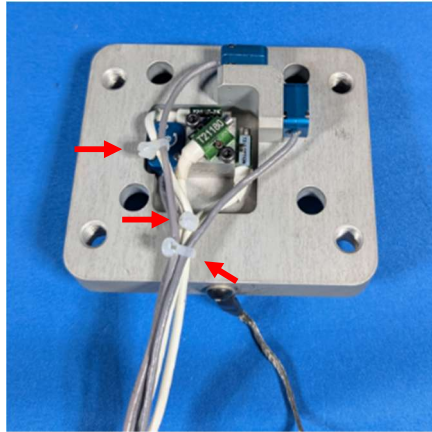

Figure 13-23. Accelerometer and ARS wiring bundled on the upper-torso-to-pelvis adapter plate with slack for strain relief
13.4.3.1 After installing the accelerometers and ARSs on the upper torso to pelvis adaptor plate, gather the wiring and secure it with tie wraps. Leave sufficient slack so the wires do not form sharp bends at each sensor base, which could cause damage (Figure 13-23).